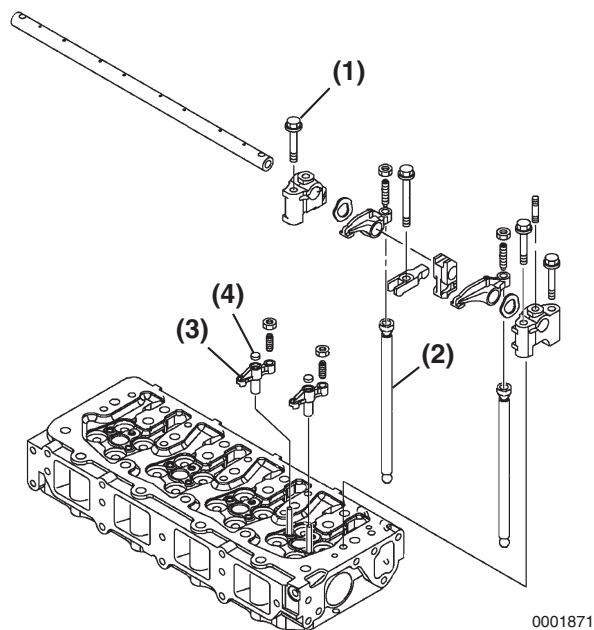

Figure 6-69
1. Reinstall the valve bridges (**Figure 6-69, (3)**) in their original locations and ensure each seat (**Figure 6-69, (4)**) is in place.
2. Insert the push rods (**Figure 6-69, (2)**) in their original locations.